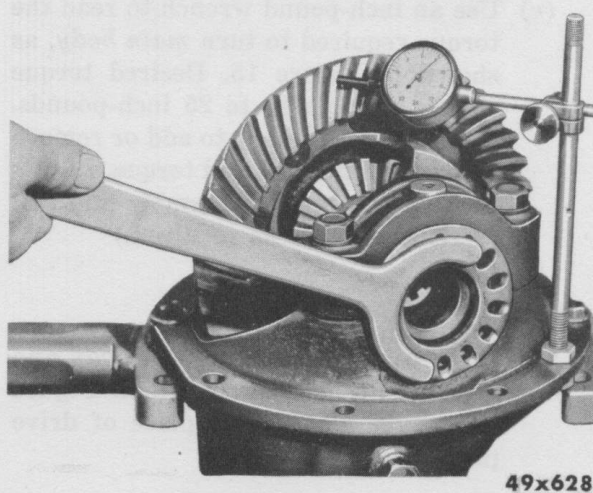

Fig. 21—Tightening Tooth-Side Adjusting Nut
- (h) Turn in adjusting nut on tooth side, until dial gauge shows .006 inch backlash, as shown in Figure 21. Lock adjusting nuts in place and tighten both top cap screws from 85 to 90 foot-pounds.